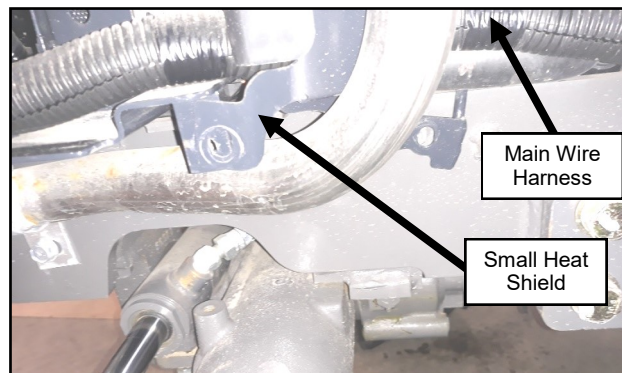

Figure 17.6 (Left Side of Engine Bay)
- 17.6 In order to gain better access to the lower radiator hose, temporarily remove the reusable wire ties that secure the main wire harness and the hardware that attaches the small heat shield. See figure 17.6